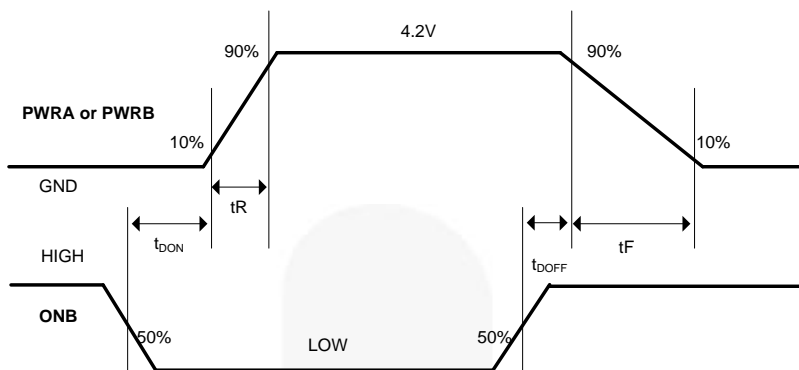

Figure 4. Dynamic Behavior
- $t_{DON}/t_{DOFF}/t_R/t_F$  are defined in Figure 4.